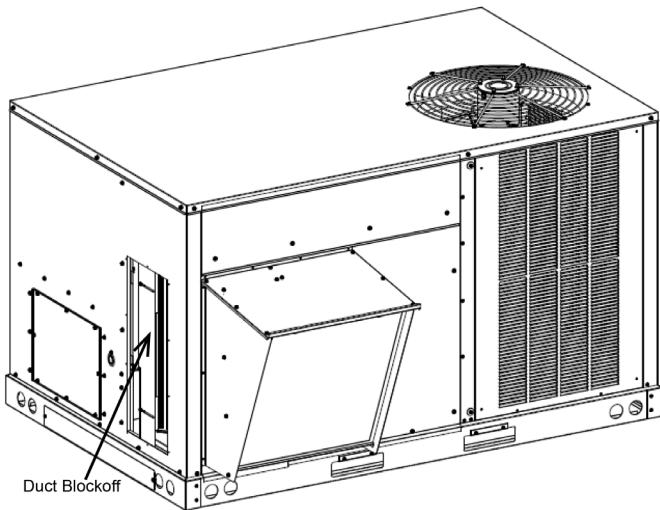

FIGURE 4 - FULLY ASSEMBLED ECONOMIZER
- With economizer fully installed, loosen the duct blockoff and slide it toward the filter rack to minimize air by-pass (see Figure 4).